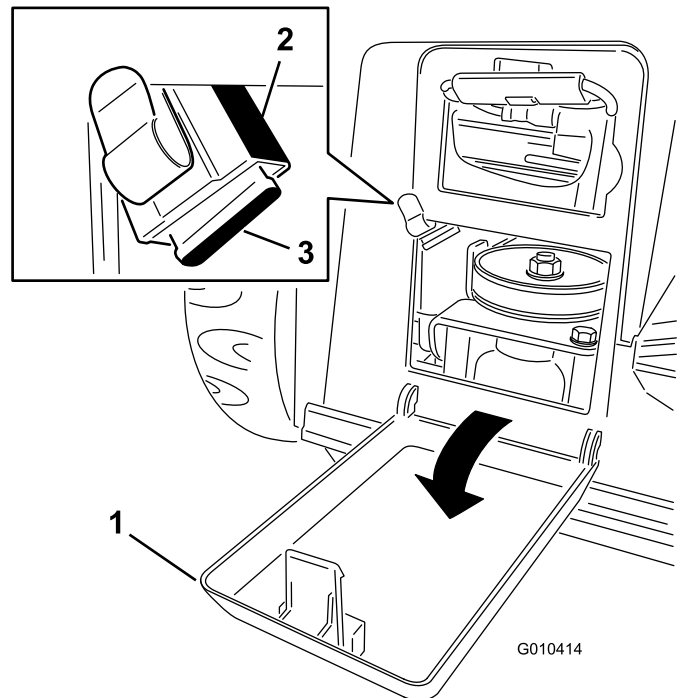

Figure 9
1. Open the battery cover (Figure 9).
2. Locate the fuse holder from the upper left corner of the opening to the battery compartment (Figure 9).